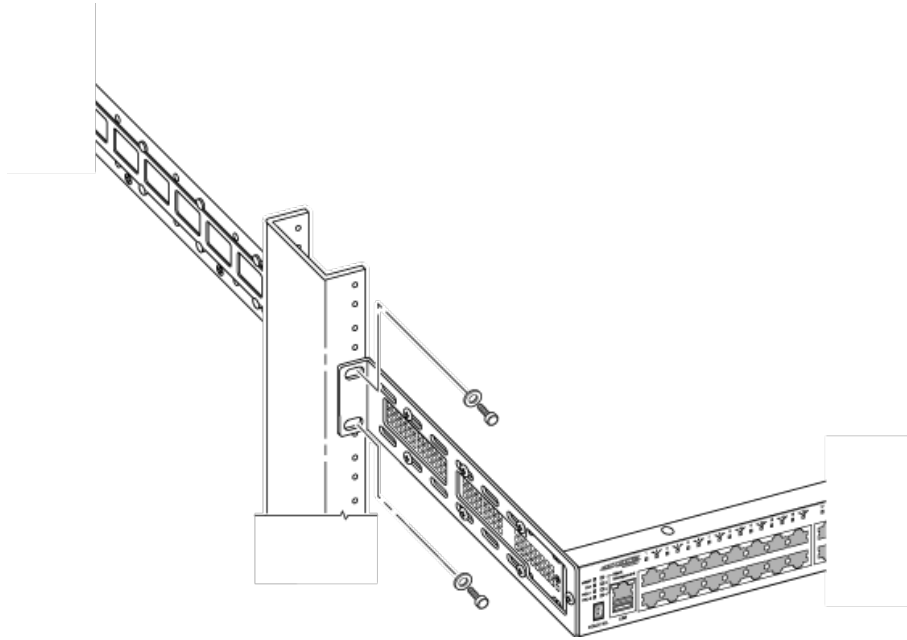

Figure 25: Removing a Front-Mounted Switch from a Two-Post Rack
- For two-post installations, carefully slide the switch out of the rack. See Figure 25.